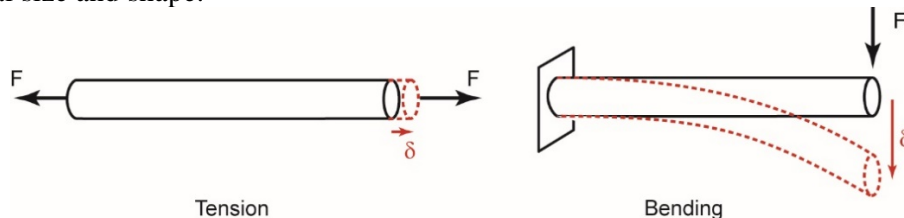

Figure A6: Stiffness in tension and bending.
Figure A6 shows schematically the stiffness in tension and bending, for a given material of constant cross-sectional size and shape.
- Now the ruler is clamped firmly to a bench, with 25cm protruding as a "cantilever" which is loaded transversely at its tip with a force F (as in Figure A6). In this bending configuration, the maximum stress (at the surface of the ruler, next to the clamp) is given by: